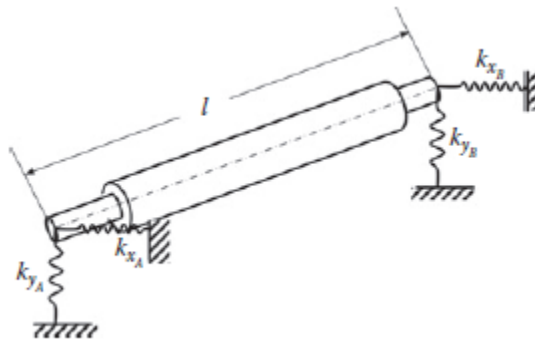

FIGURE 8c. A long rigid rotor on flexible bearings.
- c) Find the critical speeds of a rotor system as shown in Figure 8c. The bearing stiffness properties are $k_{xA} = 1.1$ kN/mm, $k_{yA} = 1.8$ kN/mm, $k_{xB} = 3.1$ kN/mm, and $k_{yB} = 3.8$ kN/mm. The disc has $m = 10$ kg and $I_d = 0.1$ kg-m² and length of rotor $l = 1$ meter.